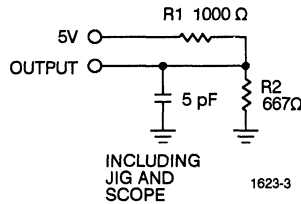

Figure 1b
5. tHZCS and tHZWE are specified with CL = 5 pF as in *Figure 1b*. Transition is measured ±500 mV from steady state voltage.